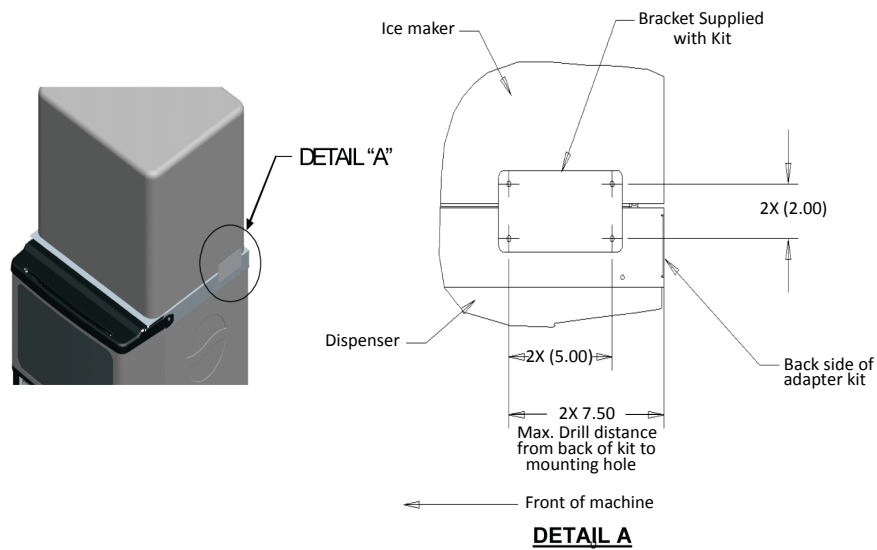

Figure 4.
8. The next step is to secure the icemaker to the kit. Use the brackets (supplied) as templates to drill four 9/64" (.140" Dia.) holes into the adapter kit (2 per side). When drilling holes, the maximum distance from the back of the kit is 7.50 inches, Refer to Figure 4. Failure to comply will result in damage to the sliding arm mechanisms internal to the kit. Drill four holes of the same diameter into the icemaker (2 per side). Ensure the location of the brackets will not damage the kit or the icemaker prior to drilling any holes. **USE EXTREME CAUTION NOT TO DRILL INTO ANY OTHER COMPONENTS.** Drill depths should not go further than the thickness of the material being drilled (just enough to go through). Secure the two brackets using the screws provided.